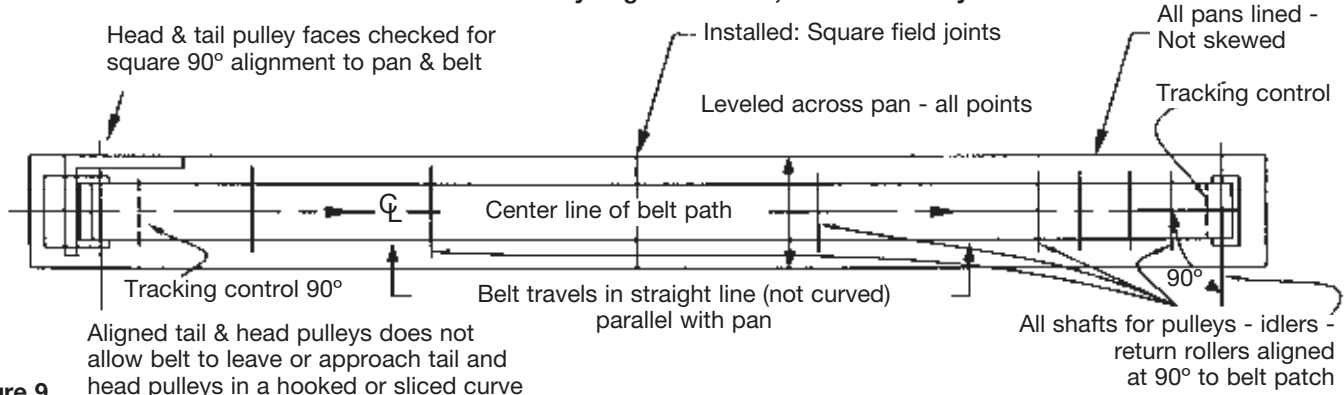

Figure 9
1. When correctly installed in-line and properly leveled, all conveyor pulleys, idlers, return rollers, pans and slider beds will be in-line and aligned. This initial field alignment will be very close to the original factory tested alignment. (See Fig. 9)